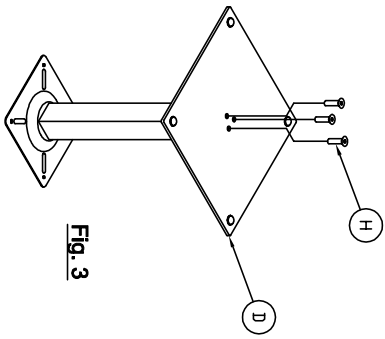

Fig. 3
3. Assemble Base (D) to Column Assembly using Screw (H) 3 places as shown in Fig. 3.